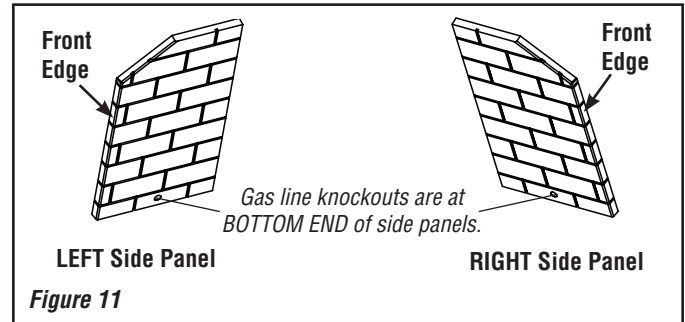

Figure 11
6.1. Identify the **LEFT** and **RIGHT SIDE** refractory panels, as shown in **Figure 11, below**.